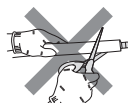

Fig. 1
- Pull out the drain cap at the back right of the indoor unit. (Fig. 1)
- Do not cut the drain hose of the unit. (Fig. 1)